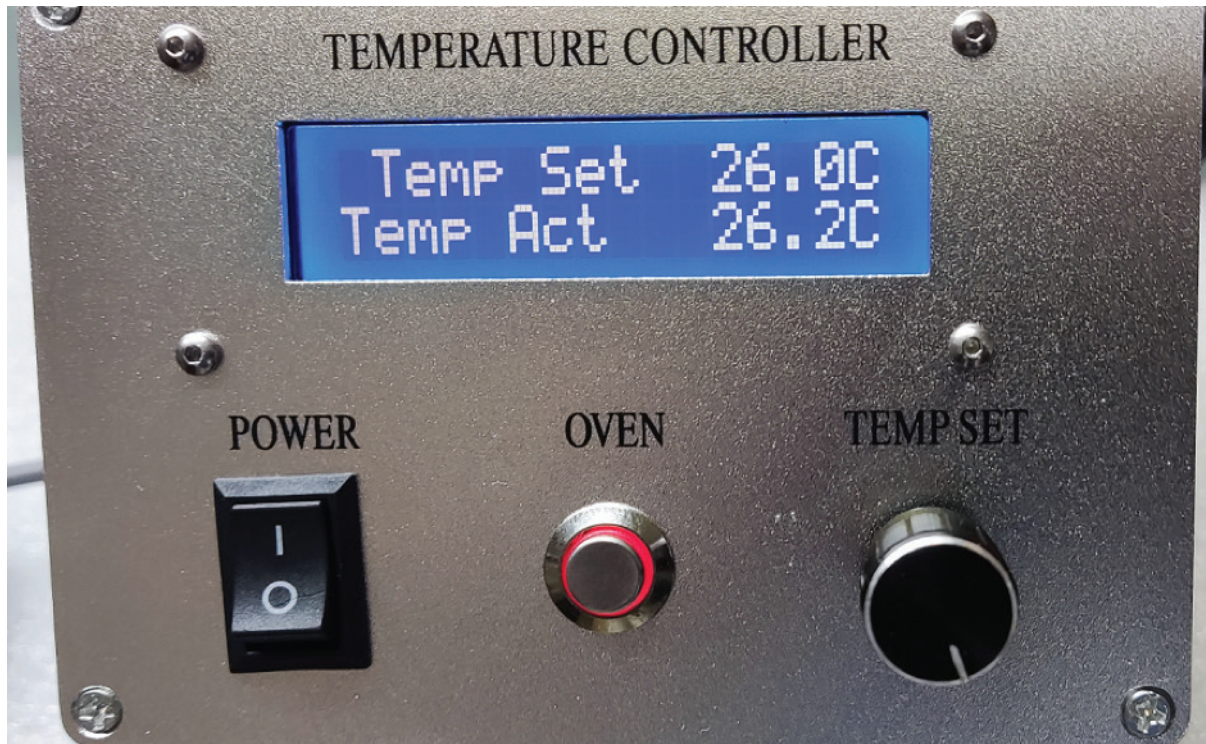

**FIGURE 1. Thermoelectric Cooler/Heater Module**
2.1. Thermoelectric Cooler/Heater Module is shown in figure 1